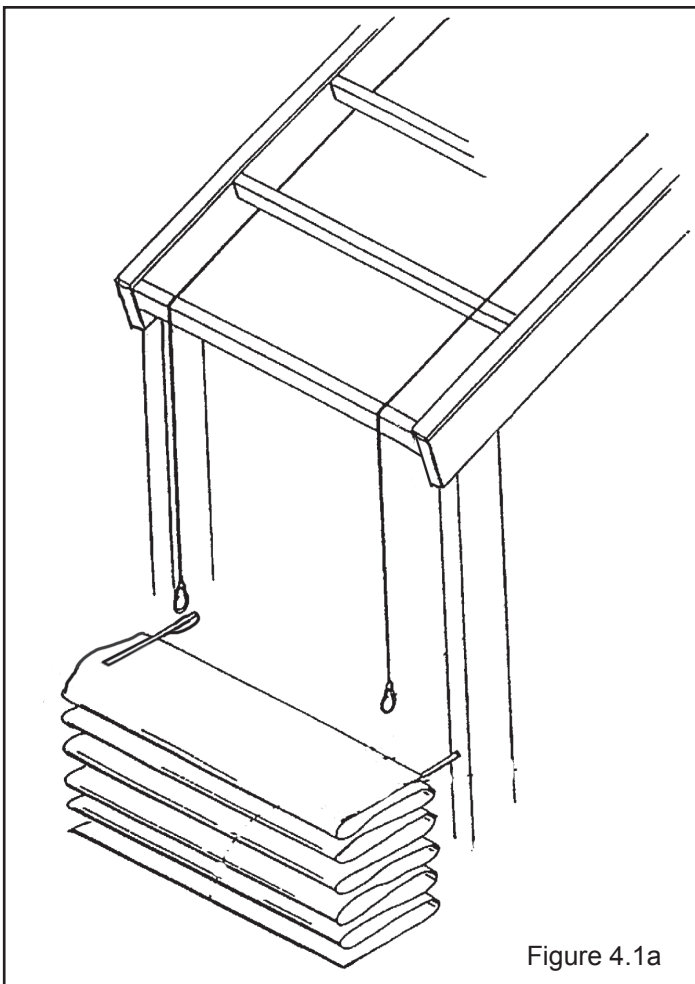

Figure 4.1a
- 4.1.2 Using a drop cloth, lay the mid fabric next to the bottom of the uprights on the snap side of the mid bay. Snap the pull ropes onto the web loops near each kedar edge. Mid should be loosely stacked to permit easy feeding into the channels. See **Figure 4.1a. IMPORTANT:** Use the third pull-rope as a pull-back rope. Snap this rope to one of the pull straps on the mid along with one of the pullropes. After the mid has been pulled up and over to the other side of the mid, remove this rope from the strap and snap to the other two pull-ropes. Using this pull-back rope, pull the pull-ropes back to the starting side of the frame and slide them over to the next bay. This step will save time in having to throw the pull-ropes over the frame again. **CAUTION:** Be certain at all times that fabric is not caught on any part of the frame to prevent damage to the fabric.